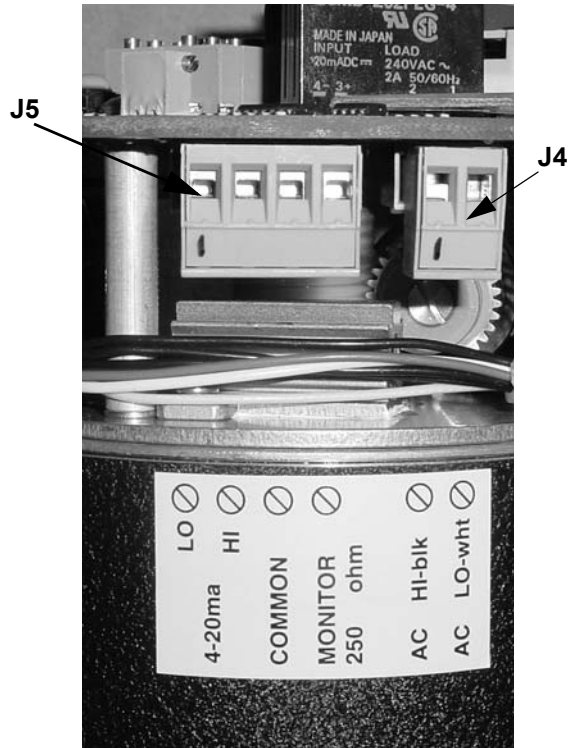
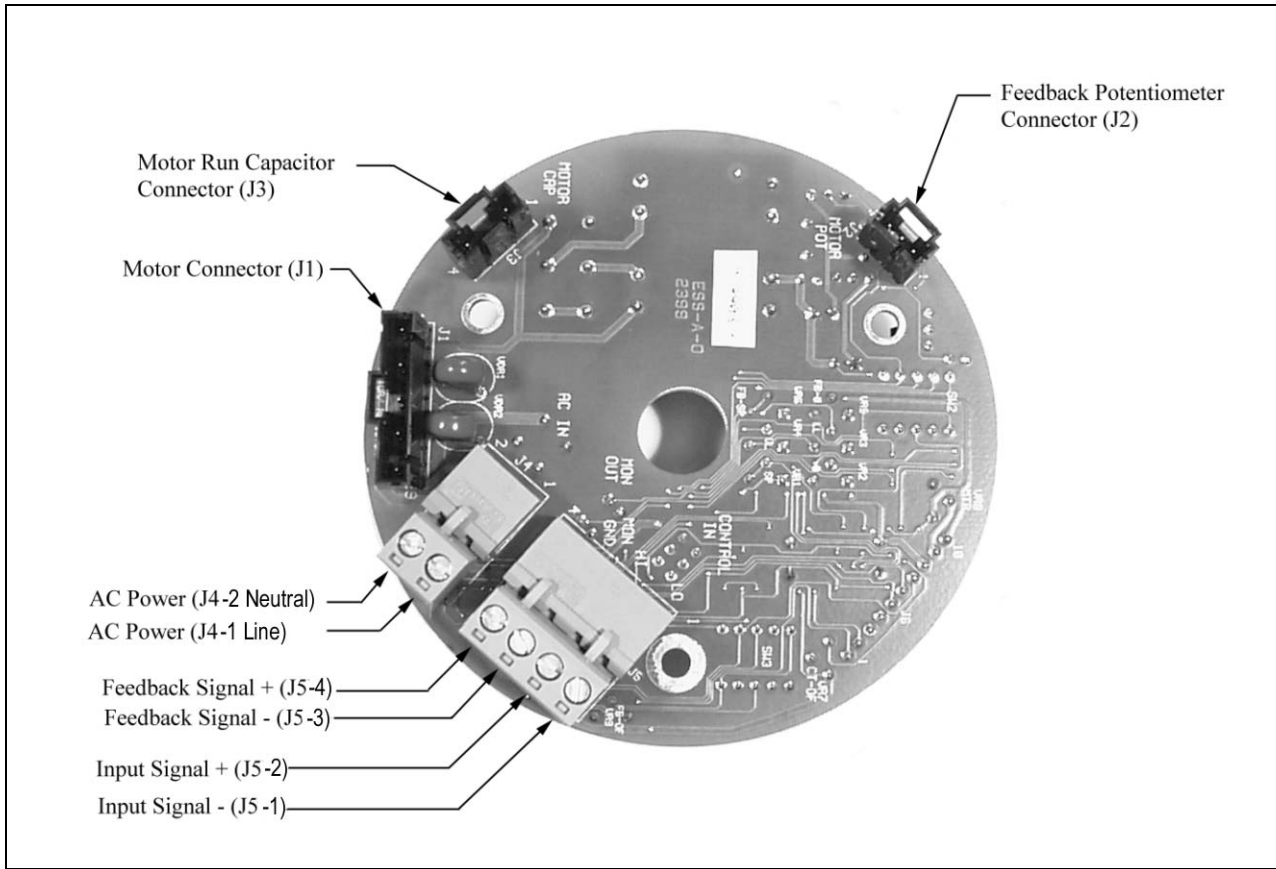

Figure 4. Circuit Board Connectors J4 and J5
Figure 12. Circuit Board, Bottom.
4. Route wires to ECC keeping electrical interference to a minimum. Carefully pull four-position connector J5 from circuit board. Connect command signal wires to connector J5 (Figure 4 and 12). Reconnect connector J5 to circuit board.
3. Carefully pull two-position connector J4 from circuit board (Figure 4). Connect HI-blk and LO-wht wires to terminal block connector J4 (Figure 12). Reconnect connector J4 to circuit board.